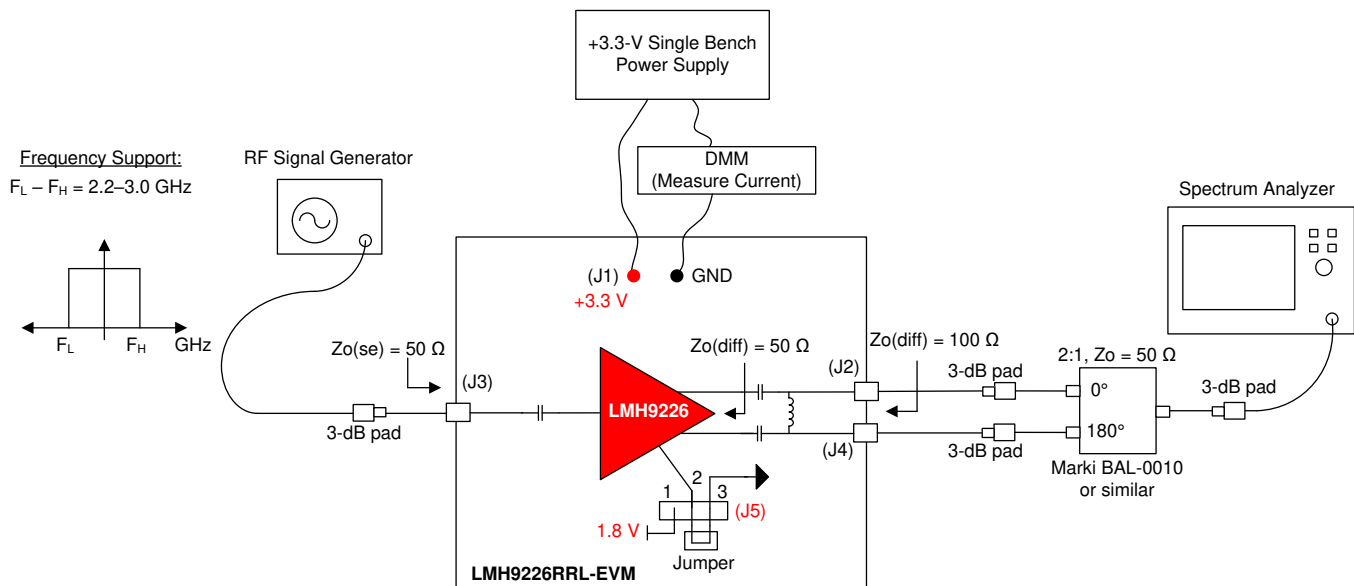

Figure 1. Single Tone Setup for Gain and Output P1dB
This section provides general usage information for the LMH9226 EVM. See Figure 1 for a general single tone setup diagram as a reference point to the following instructions. Some components such as supply bypass capacitors, and power down reference voltage generation are omitted in Figure 1 for clarity.
- c. When measuring the EVM for single tone distortion products, TI recommends using an RF band pass filter (not shown in Figure 1) between the signal source and J3 SMA input.
- f. When connecting to a spectrum analyzer single-ended input, the differential signal out of the EVM should be converted to a single-ended signal using a passive balun as shown in Figure 1.